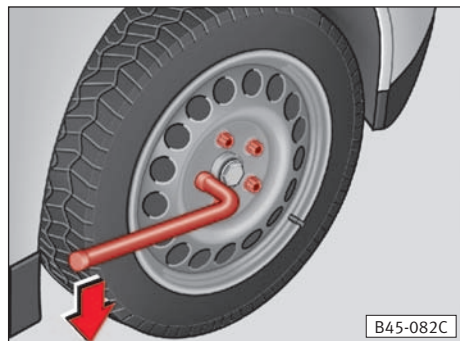

Fig. 137
– Push the wheel spanner as far as possible onto the wheel bolt as shown and turn the spanner anti-clockwise ⇒ **fig. 137**. When doing this, grip the spanner as far as possible towards the lever end.